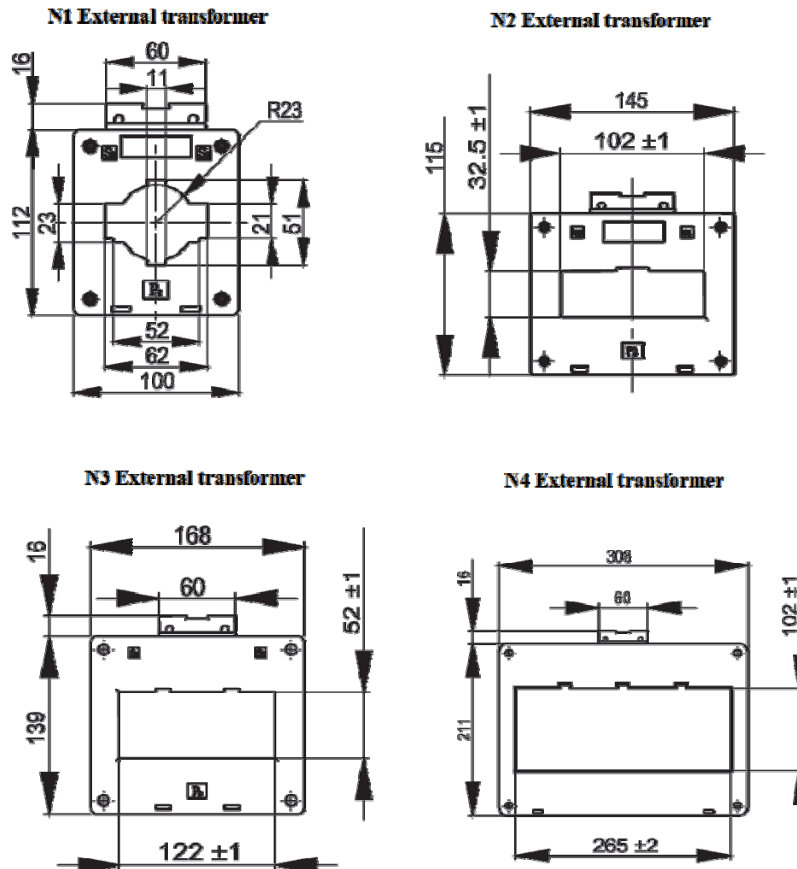

Figure 38
Three-pole circuit breaker and the external N-pole transformer can form a 3P+N system, which can realize differential type protection (T) or ground current type protection (W) by use the measured data from grounding cable. The specification is shown in table 19, and the detailed dimensions are shown in figure 38. (Pay attention to the direction when using)